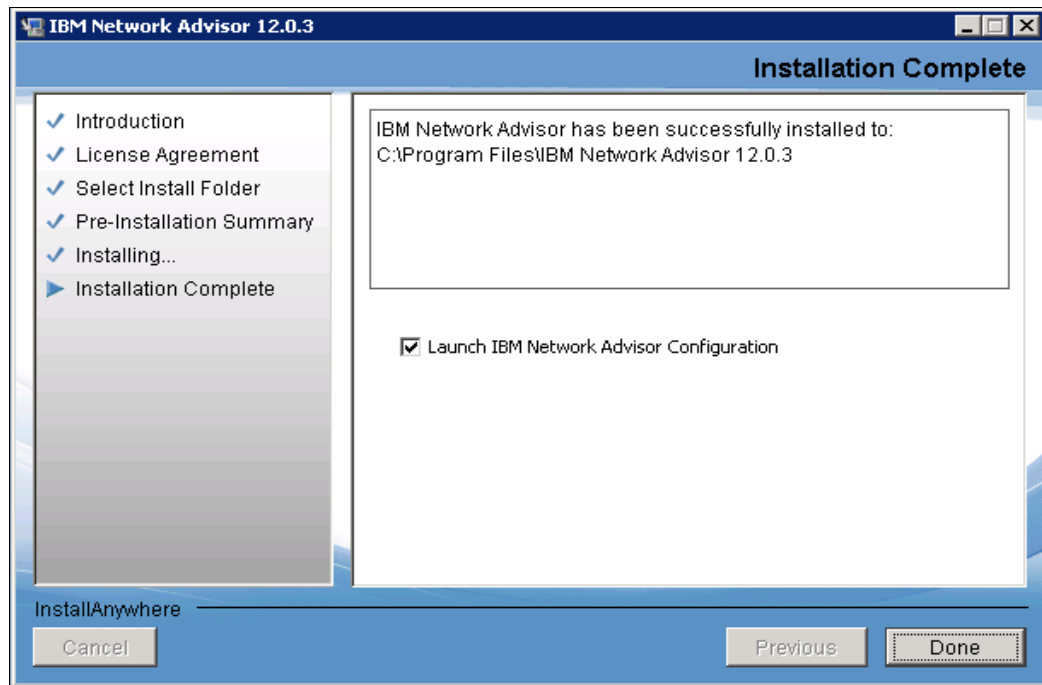

Figure 3-5 Installation Complete window
6. After the completion of the installation, as shown in Figure 3-5, the Installation Complete window opens. Ensure that the **Launch IBM Network Advisor Configuration** check box is selected to proceed with the configuration (it is selected by default). Click **Done**.